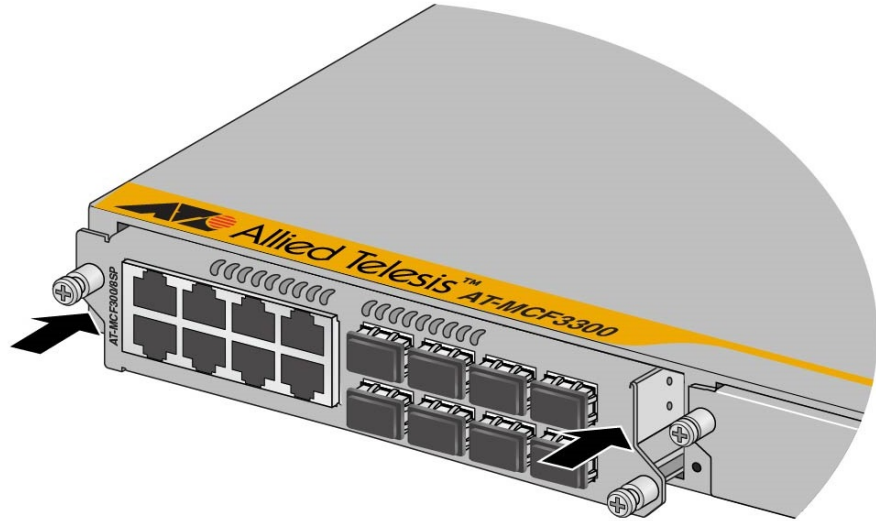

Figure 12. Seating a Media Converter Module on the Backplane Connector
3. Gently press on both sides of the faceplate to seat the module on the backplane connector in the chassis. Refer to Figure 12.